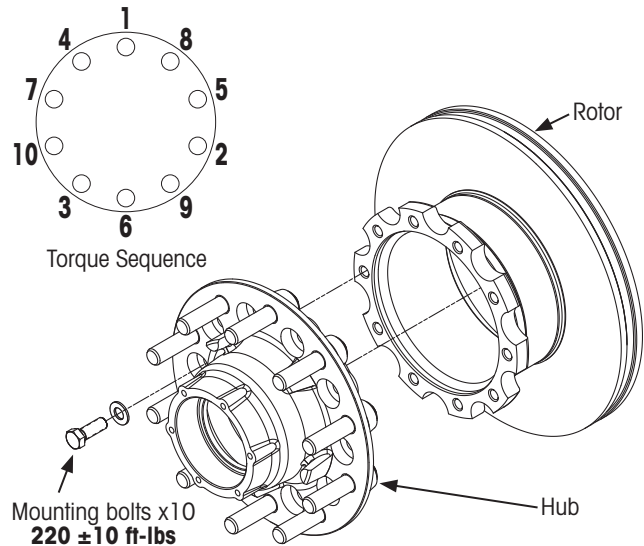

Figure 1: Hub to rotor assembly
5. Properly constrain assembly and **torque hex cap screws** in the sequence shown in Figure 1.